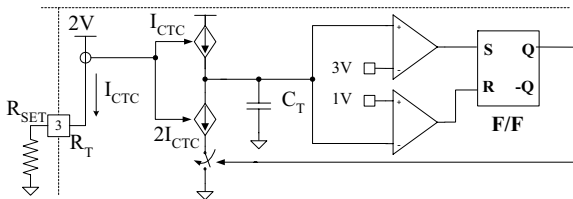

Figure 6. Current controlled oscillator
1. Internal Oscillator: FSF-series employs current controlled oscillator as shown in Figure 6. Internally, the voltage of R_T pin is regulated at 2V and the charging/discharging current for the oscillator capacitor, C_T is determined by the current flowing out of R_T pin (I_{CTC}). When a resistor, R_{SET} is connected to this pin, the switching frequency is fixed as